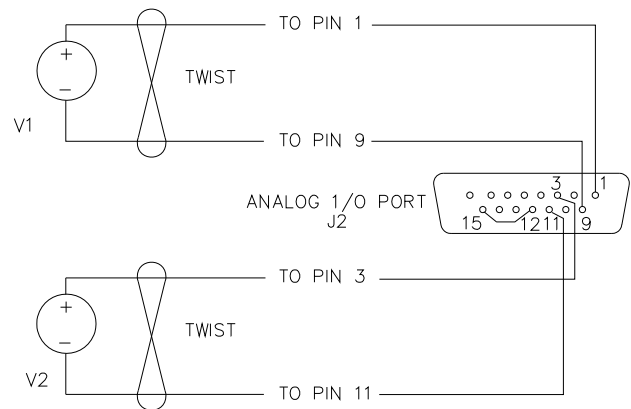

FIGURE 3-15. ANALOG PROGRAMMING OF OUTPUT VOLTAGE OR CURRENT USING VOLTAGE
Figure 3-15 is a simplified diagrams of the KLP showing the switch configuration and external connections required for analog programming using an external voltage.
3. Configure Analog I/O Port J2 (Figure 2-2) by referring to Table 2-7 and Figure 3-15 (grounding J1 pin 12 enables analog programming).
With the power supply configured as shown in Figure 3-15 and assuming the load causes the power supply to operate in voltage mode, varying source voltage V2 from 0 to maximum causes the output voltage of the power supply to vary linearly from 0 to full scale, while V1 can be used to adjust the current limit. When the power supply operates in current mode, V2 will adjust the voltage limit and V1 will adjust output current.